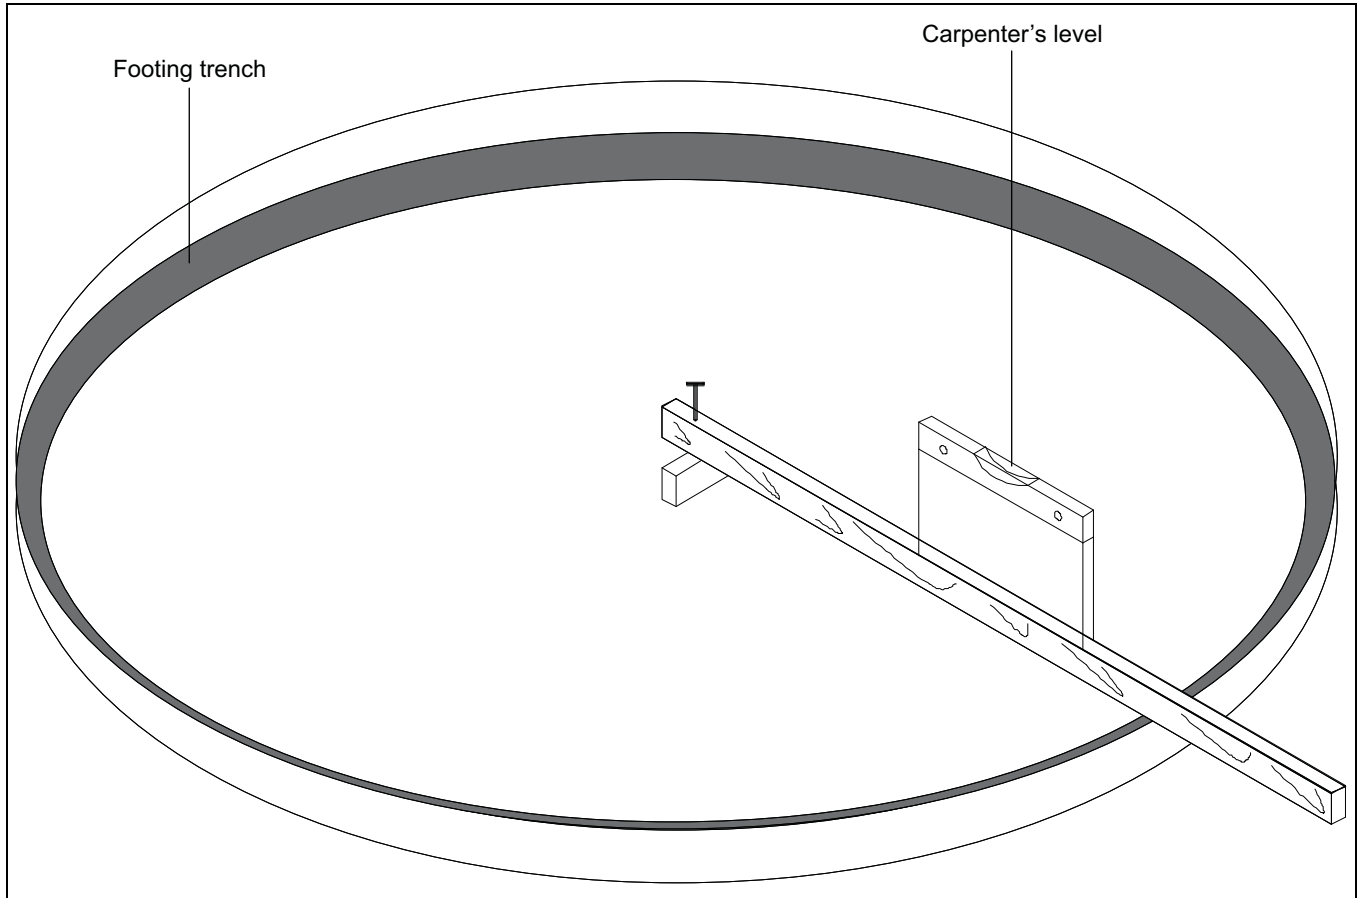
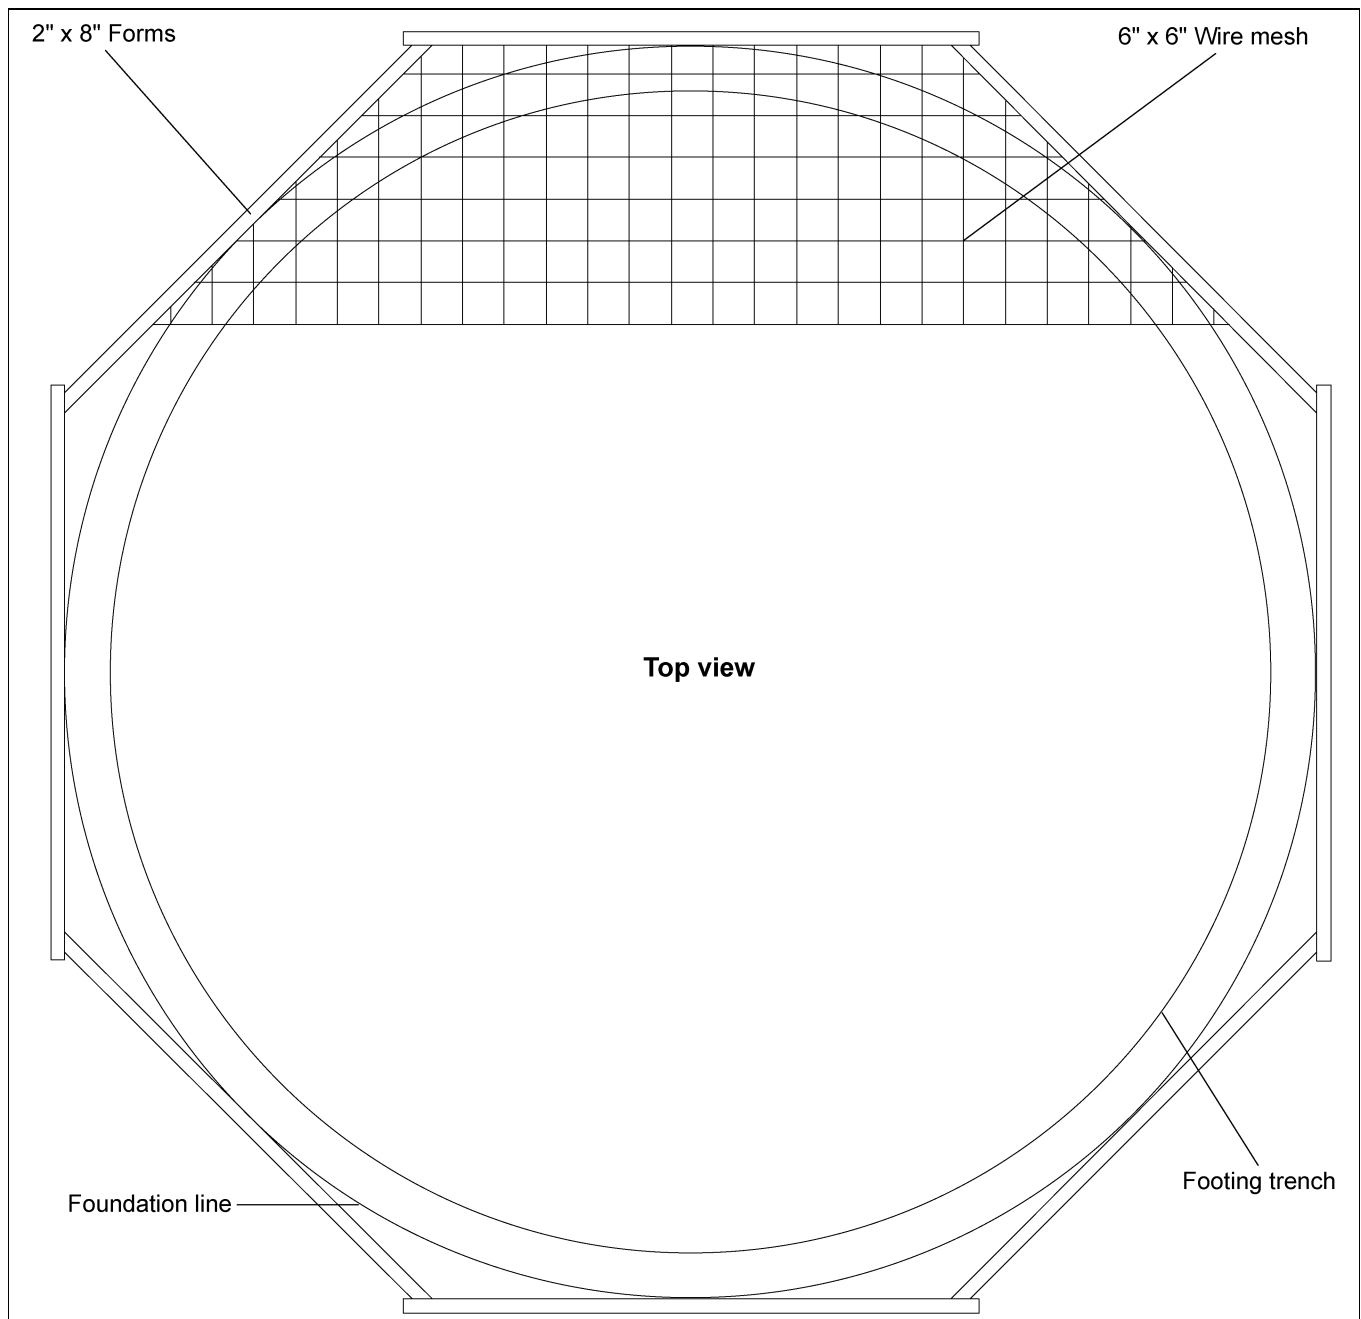

Figure 3B
Figure 3C
Having scribed the diameter of the foundation, proceed by digging the footing of the foundation. This consists of a large circular trench dug just inside the foundation line. (Refer to foundation details for necessary information.) Once the footing has been dug, you are ready to build the forms. It is important that the form be rigid enough to hold its shape against the poured concrete. Also, the foundation must be flat. Sloped floors cannot be used in drying bins. A carpenter's level placed on top of the 2 x 4 will enable you to set the top of the forms to match the top of the center stake. Check the form work with a transit to ensure a uniform elevation for the entire foundation. *(See Figure 3B.)*
There are two (2) styles of foundation forms commonly used. The first is the circular form depicted in Figure 3B on Page 10. The second style can be made of 2" x 8" boards set into a square with corners blocked off to form an octagon. (See Figure 3C.) This eight (8) sided form will approximate a circle and can be constructed quite easily.